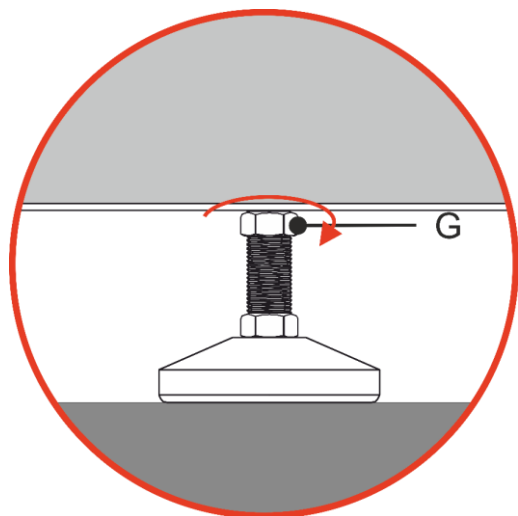

Fig. 26
02) Turn screw G clockwise until it reaches the bottom of the Perimeter Bracket, as shown in Fig. 26.